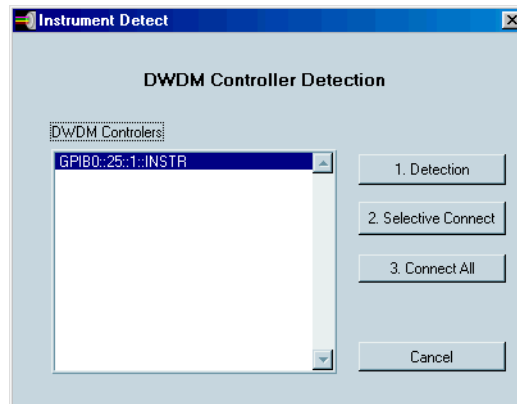

Figure 2-5. Instrument Found
2. Click on the **1. Detection** button to detect all configured instruments connected to the external controller as shown in Figure 2-5. (In this case one DWDM Controller, GPIB0::25::INSTR.)